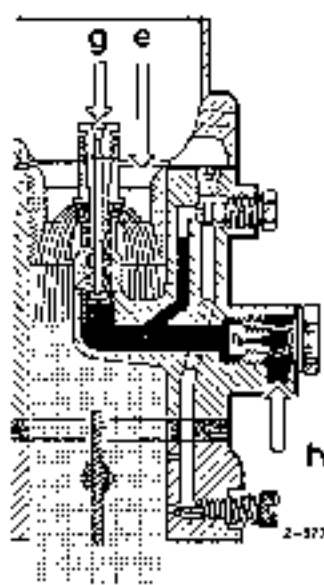

Fig. 07-0/9
When the fuel level in the mixing tube holder decreases as a result of the increasing partial vacuum, i. e. at higher engine speed, compensating air enters through the air correction jet (11) which, through the small bores in the mixing tube mixer with the fuel flowing through the main jet. With increasing engine speed the proportion of air in the mixture increases so that overenrichment of the fuel-air mixture is prevented and an almost uniform proportion of fuel to air is ensured over the whole speed range (Figs. 07-0/7 and 07-0/9).